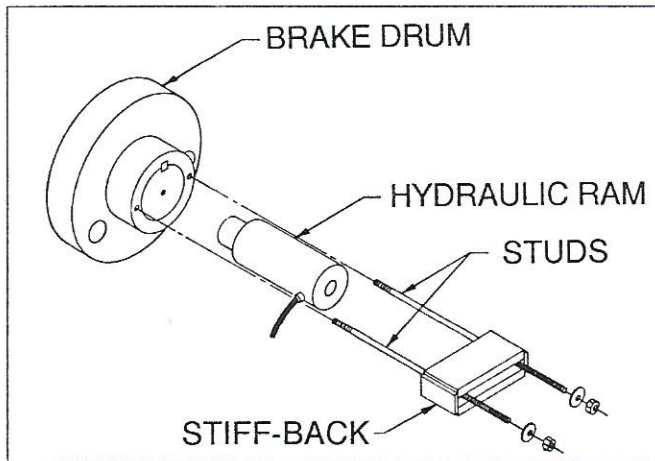

Fig.1, Removing Brake Drum
- A. Place two (2) rubber pads under the low speed gear.
14. Press the low speed shaft out of the low speed gear using an appropriate press with a tube spacer over the low speed shaft. See figure 1, page 9.